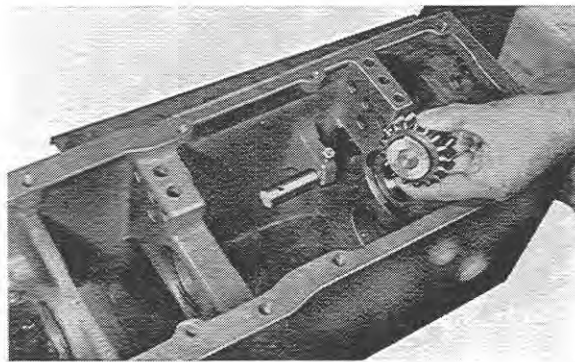

Fig. 7
- the reverse pinion shaft, either forwards or rearwards, driving it by means of MIDO (Fig. 7),
- 1) Refit the pinion and its shaft using the false shaft MIDO to permit the pinion and its two thrust washers to be mounted in their location without risking the escape of the bearing needles (46 in number) in the bottom of the gearbox (Fig. 7).